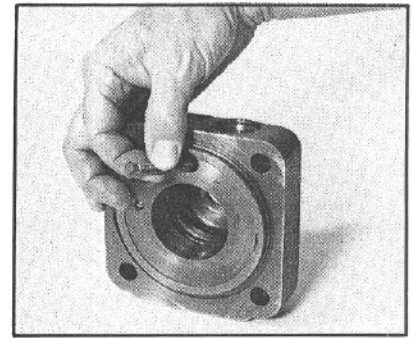
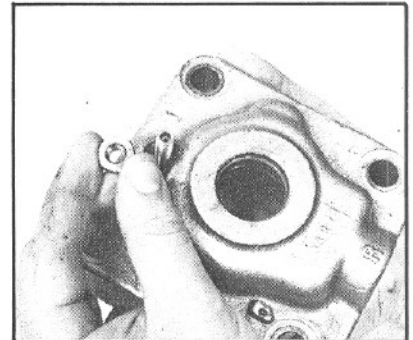

Figure 108
Figure 109
NOTE: More recent models of the HFB64 have an internal allen hex poppet adjusting screw in the valve housing (9). This screw has a mushroom-shaped end (FIG. 108). If your gear is equipped with this screw, you must install the sealing jam nut onto the internal allen hex end of the screw after you assemble the screw into the valve housing (FIG. 109). The seal on the jam nut must face toward the housing.